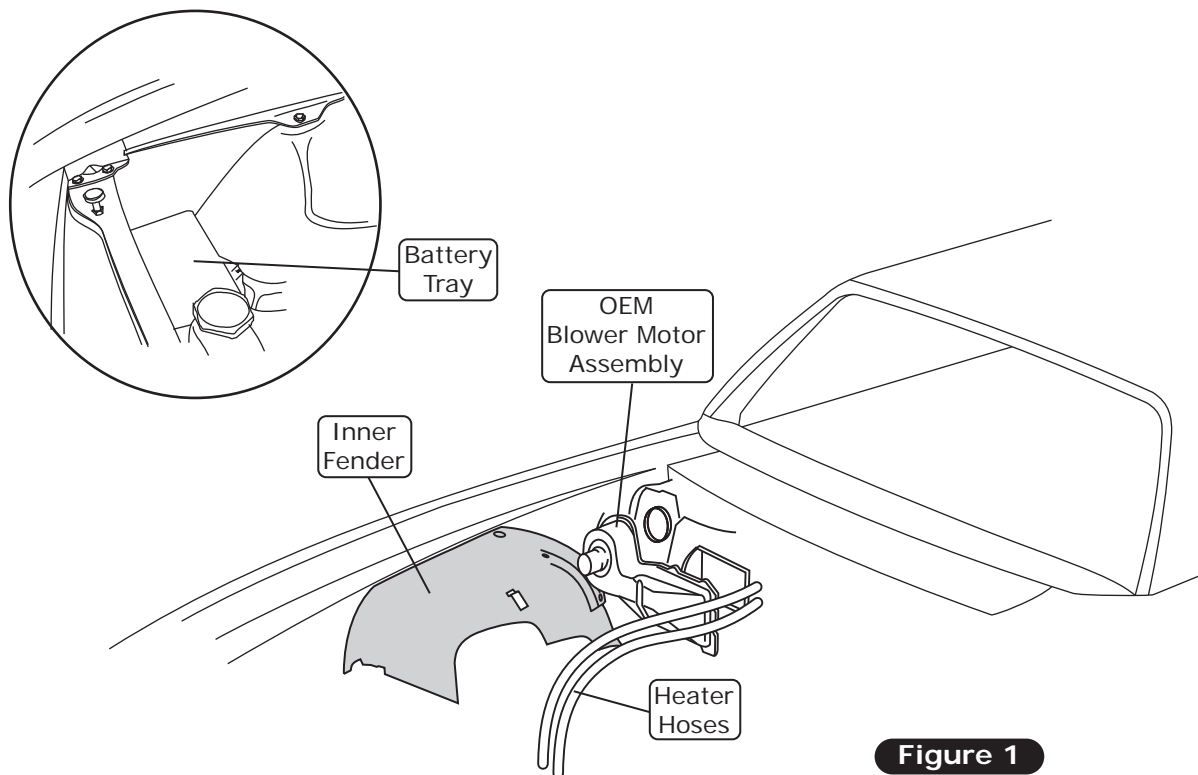

Figure 1
5. Remove the passenger-side front wheel, then remove the inner fender well (See Figure 1, below).
7. Remove the OEM heater hoses (discard) (See Figure 1, below).